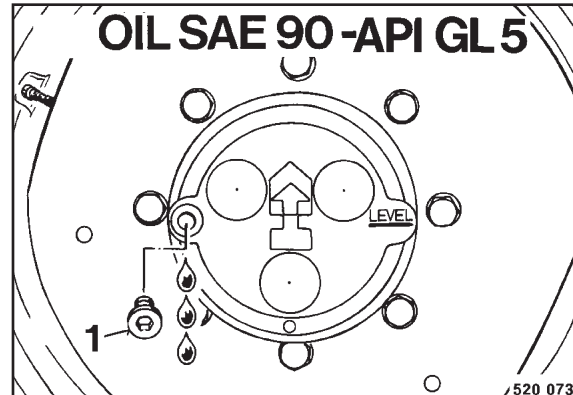

Fig. 112
- Drive the machine, until both plugs 1 (Fig. 112) are in horizontal position.